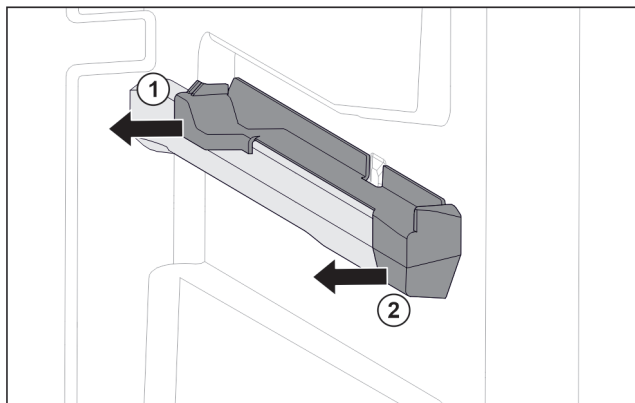

Fig. 148 Attachment on the right moulded rib
- ▶ Pull off attachment at the back sideways. Fig. 148 (1)
- ▶ Pull off attachment at the front sideways. Fig. 148 (2)